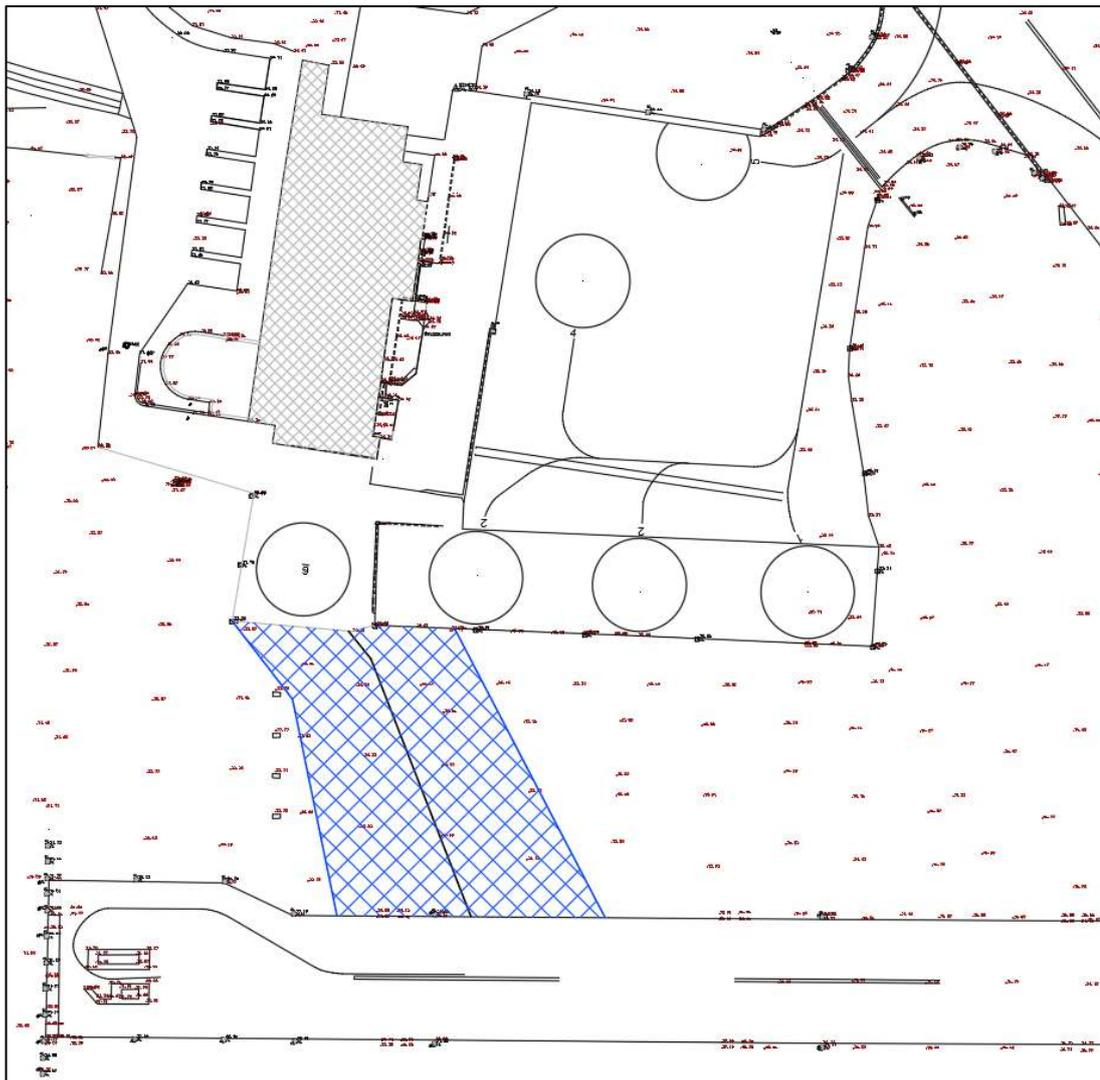

Figure 1: Proposed extent of new taxiway (blue hatch) based on client drawing "STM Stand 6 AW139"
- Description: The airport requires a new taxiway from runway 09 to the apron alongside the terminal to accommodate the following helicopter, Leonardo AW139. Figure 1 shows the extent of the proposed taxiway.